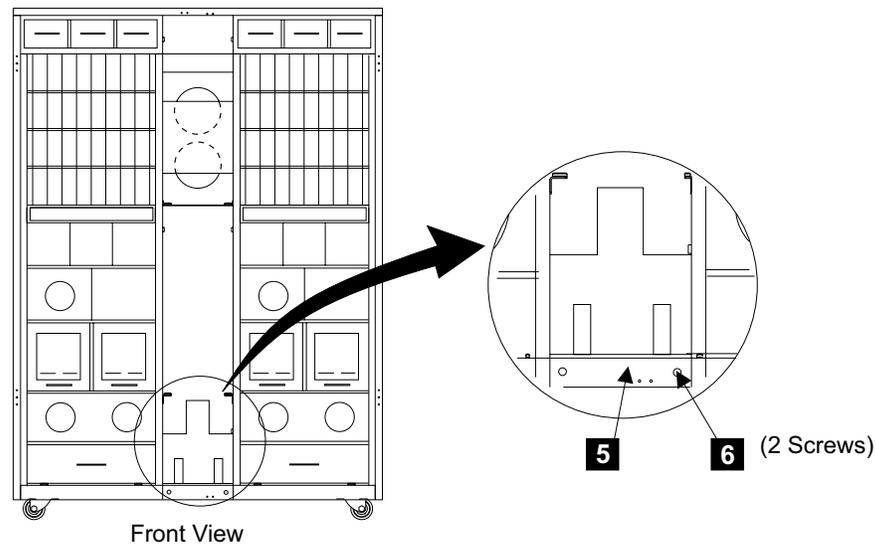

Figure 215. 2105 Model Exx/Fxx Mainline Power Cable Installation (S008351m)
- ___ 8. Go to the front of the 2105 Model Exx/Fxx. Remove the two tailgate bar mounting screws **6** [Figure 215] then remove the bar **5**.
- ___ 9. Feed both mainline power cables down through the center of the 2105 Model Exx/Fxx **5** [Figure 215] to the customers power connectors.